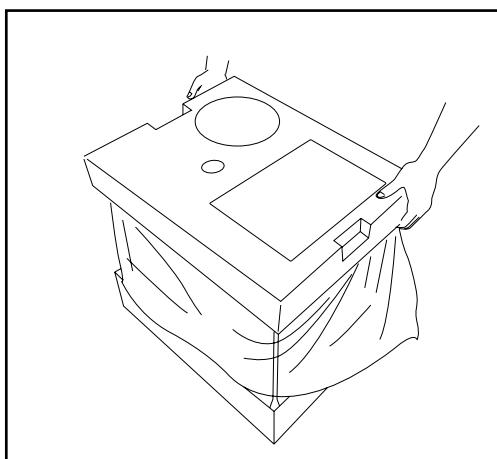
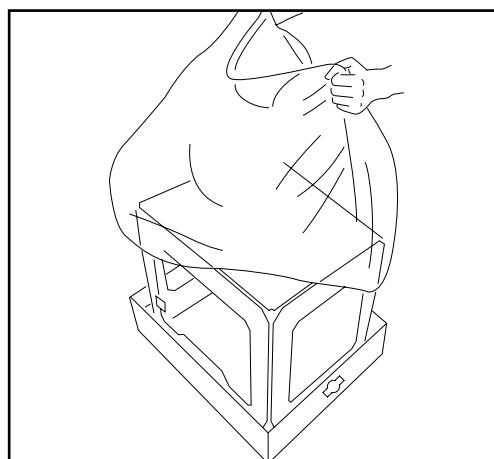

Figure 2.3 Top part
Figure 2.4 Bottom part
- ➋ Inside the box you will find two packages: a box of accessories (fig. 2.3) at the top, and underneath it a tray containing the printer (fig. 2.4).